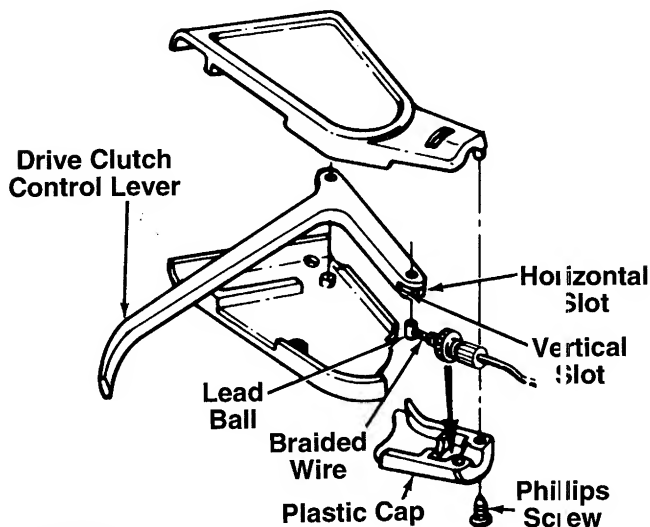

FIGURE 6.
2. Slide the braided wire around in the horizontal slot. See figure 6.
4. Secure the plastic cap to the clutch control housing using the two Phillips head screws. See figure 6.